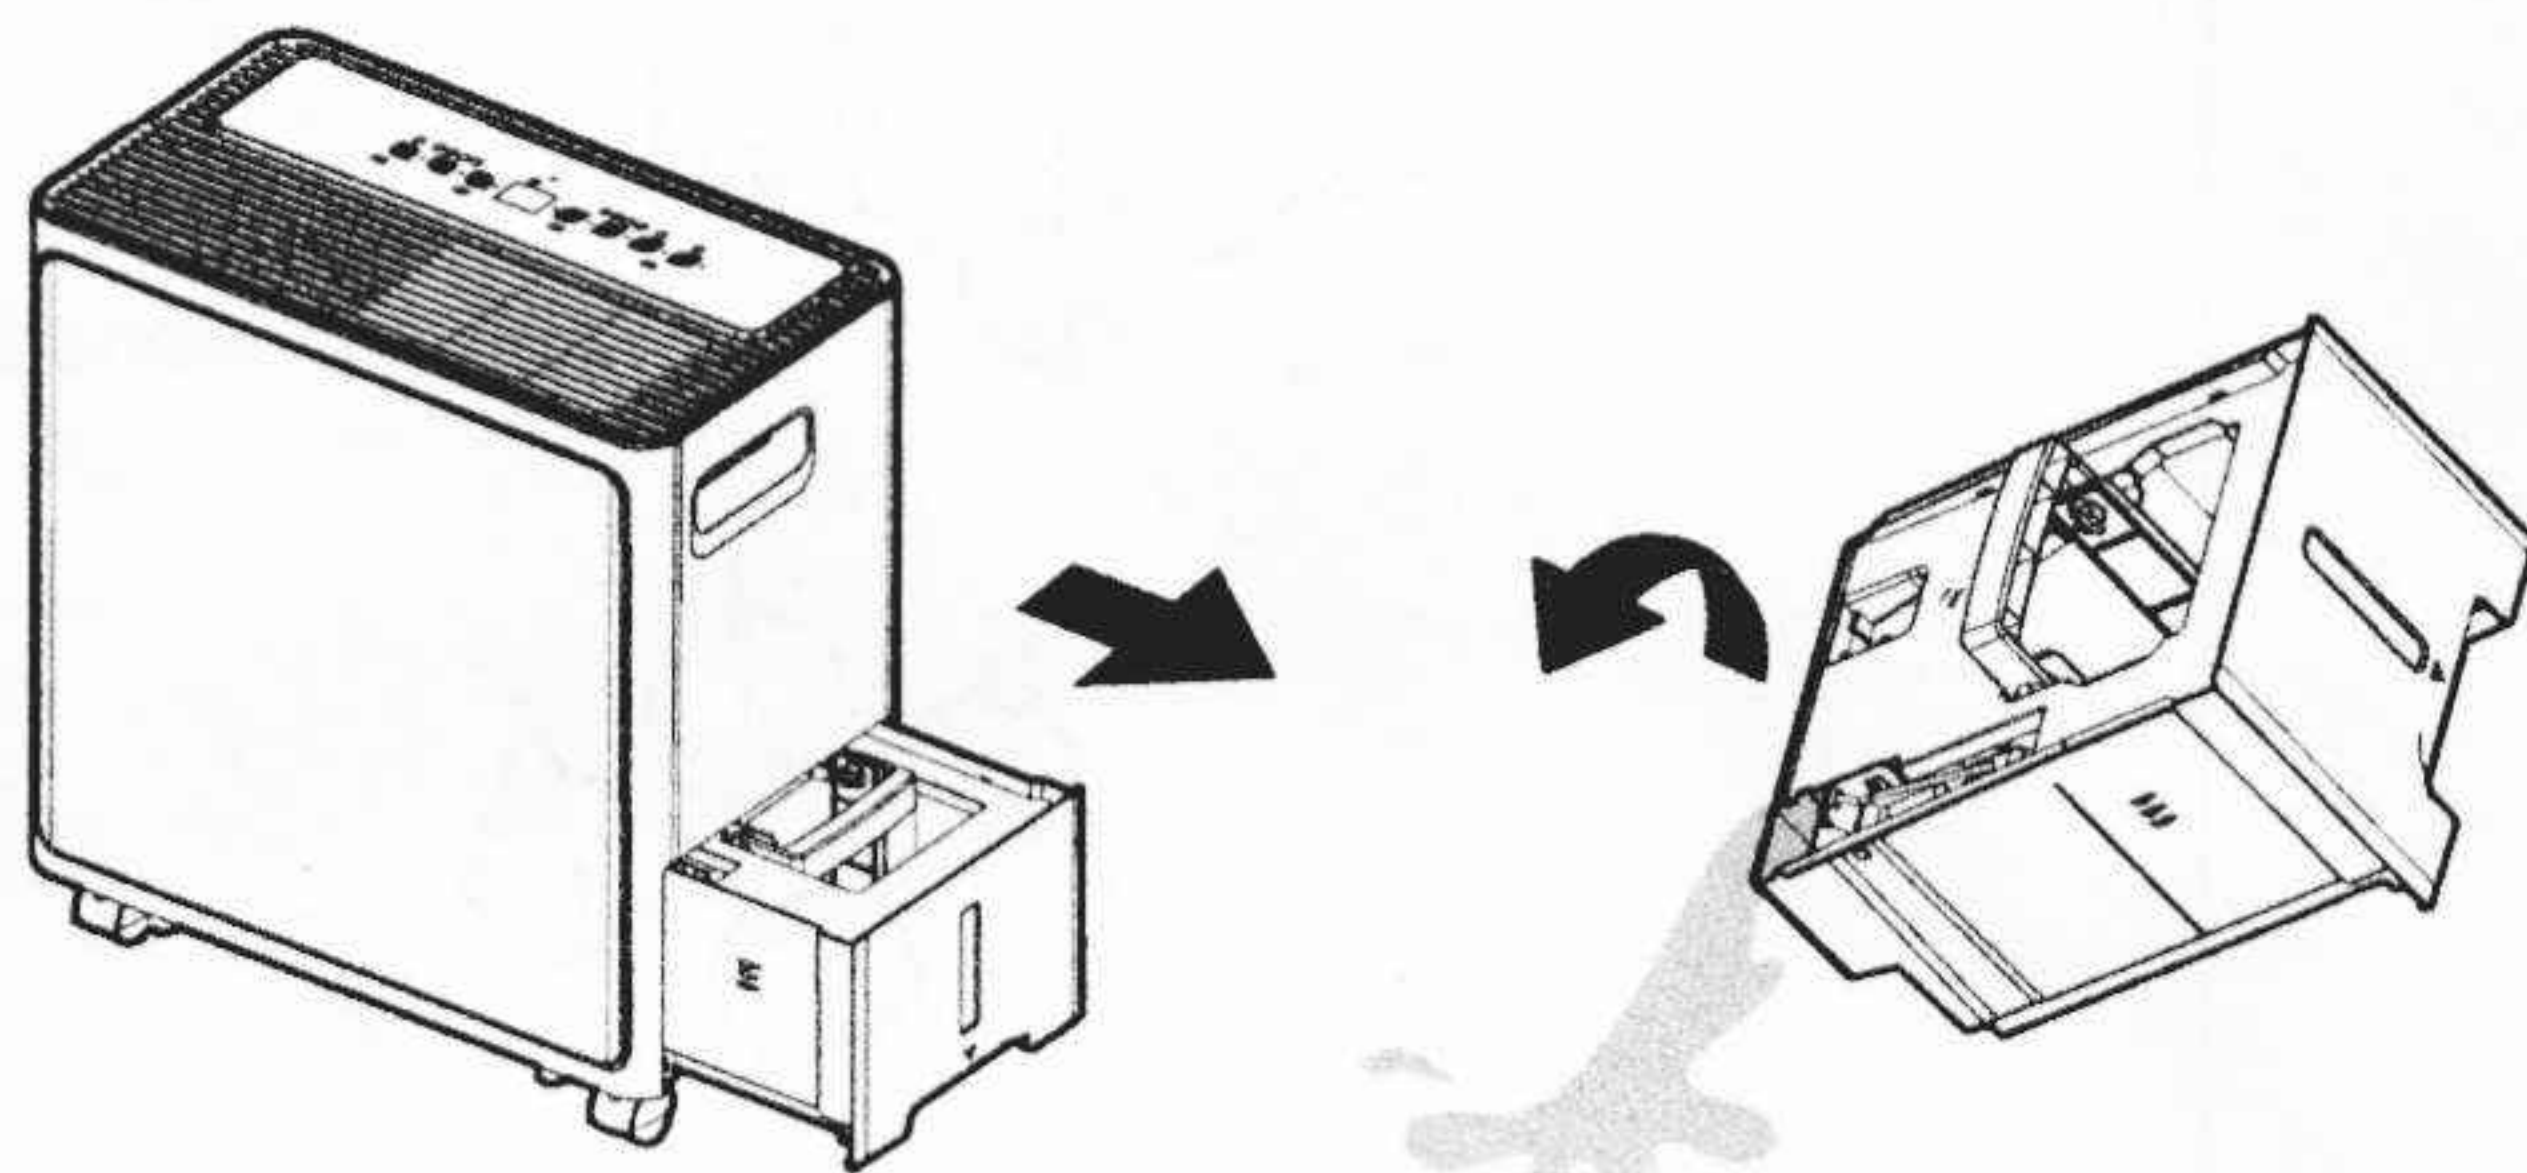

Fig. 1
- Drain water from the bucket (Fig 1) or from the water outlet (Fig 2) before installing casters. After draining from water outlet, be sure to place the plastic cover back on.